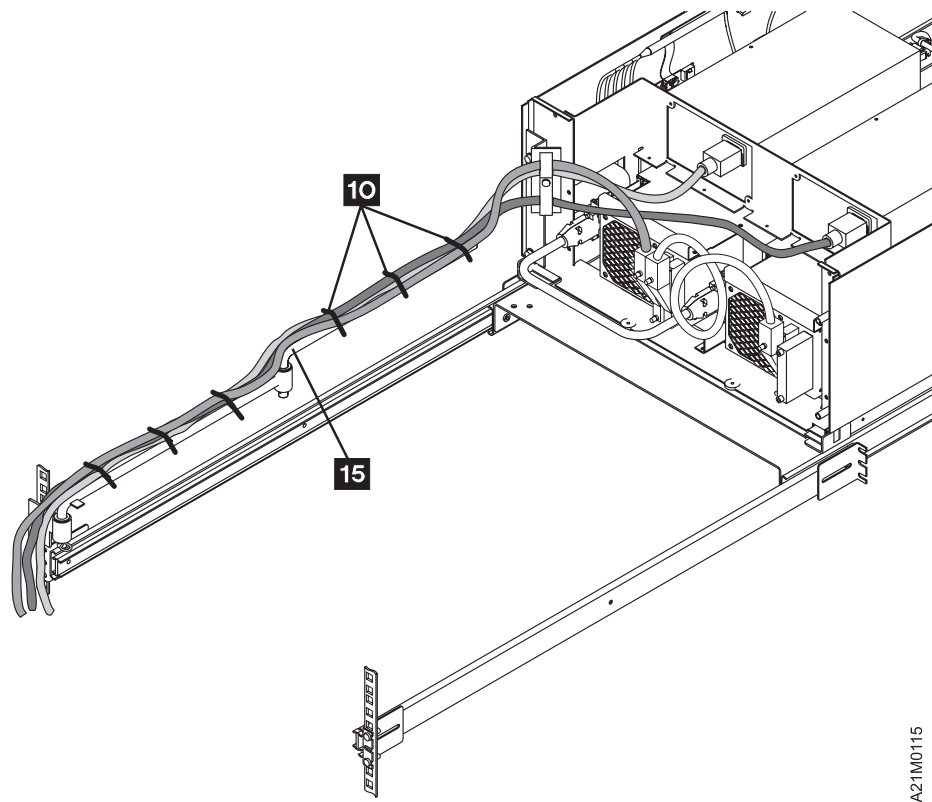

Figure 46. 3570 and Articulated Arm Extended for Model B22 Dual-Drive Single-Host
- ___ Step 8. See Figure 46. Push the 3570 completely forward so it will lock into position, then extend the articulated arm to its full length toward the 3570 library.